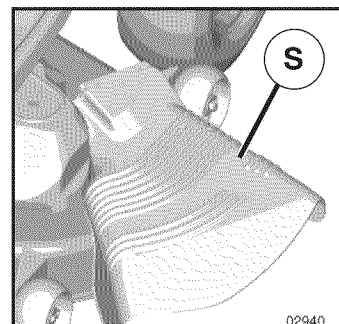

Fig. 17
CAUTION: Do not operate the mower without either the entire grass catcher, on mowers so equipped, or the deflector shield (S) in place (See Fig. 17).